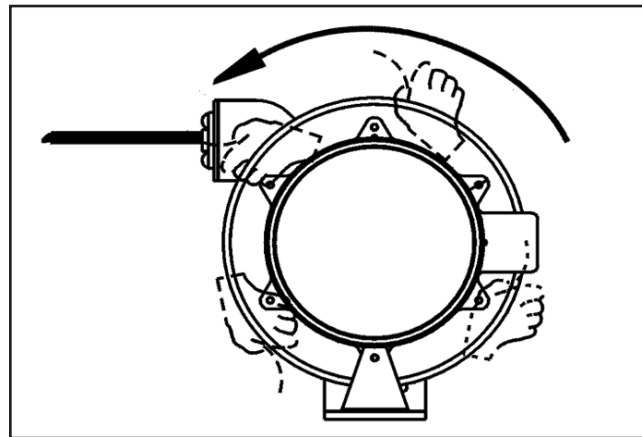

Figure 12-2 Adding Spring Tension
- With all the cable wound on the reel, grasp the end of the cable and rotate the drum and cable together in the direction of pay out in order to pre-tension the spring. See **Figure 12-2**.